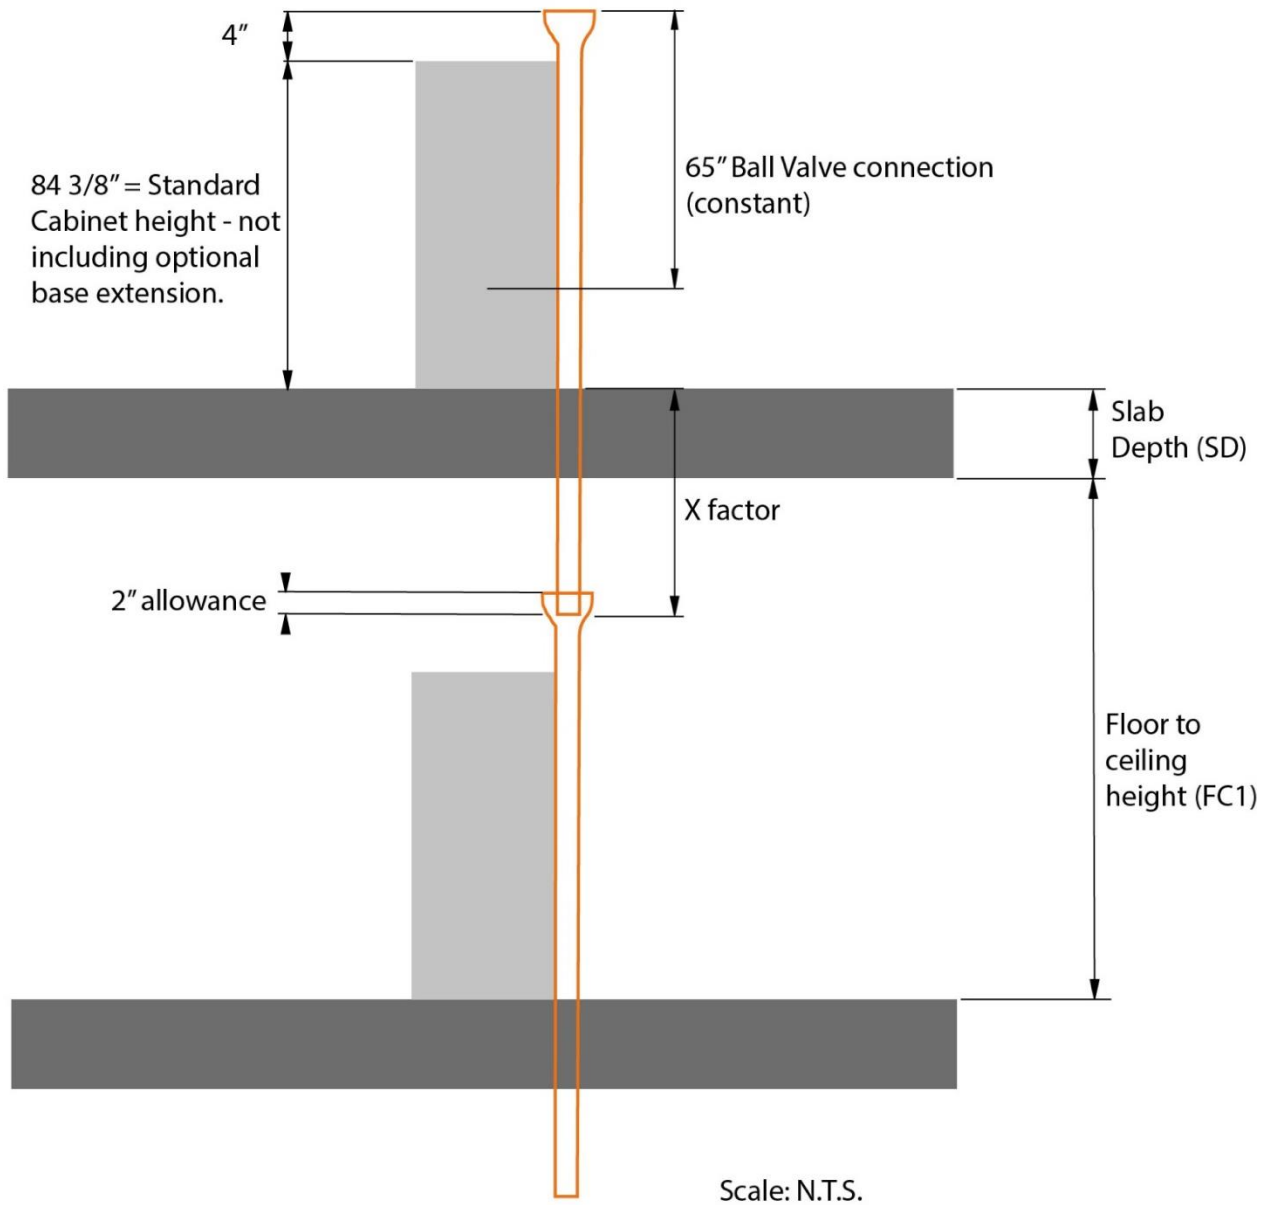

Figure 6
5. Refer to **Figure 6 (pg. 9)** for positioning of risers pertaining to floor-to-floor installation. The riser diameter shall be shown on plans. Riser length and schedule shall be coordinated with the mechanical contractor.